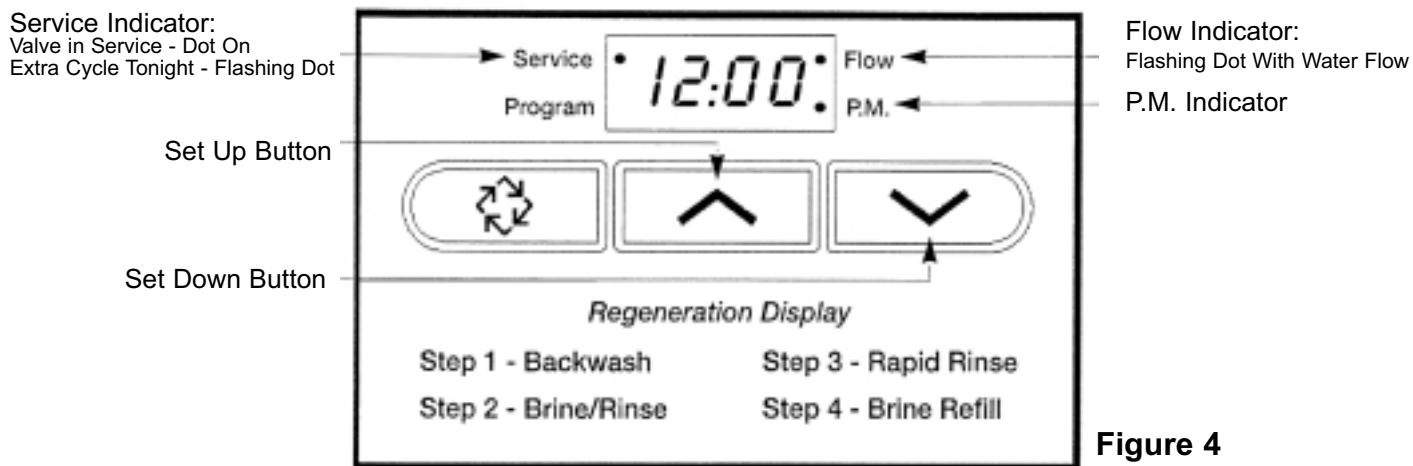

Figure 4
8. Plug the 24-volt transformer into a 120 VAC 60 Hz outlet. This valve has four positions: 1) Backwash 2) Brine/Rinse 3) Rapid Rinse and 4) Brine Refill. When the valve is in the Service position, the *extra cycle* button (far left button as shown on Figure 4) must be pressed and held for 5 seconds before it activates. Press and hold the *extra cycle* button for 5 seconds to advance the valve into the "1" Backwash position. Slowly turn on the water supply and allow the unit to backwash until the air purges out of the tank and clears the system.
Refer to Figure 4. Push either the UP or DOWN keys to adjust the time of day by one digit. Press and hold either UP or DOWN key to adjust time of day by several digits.